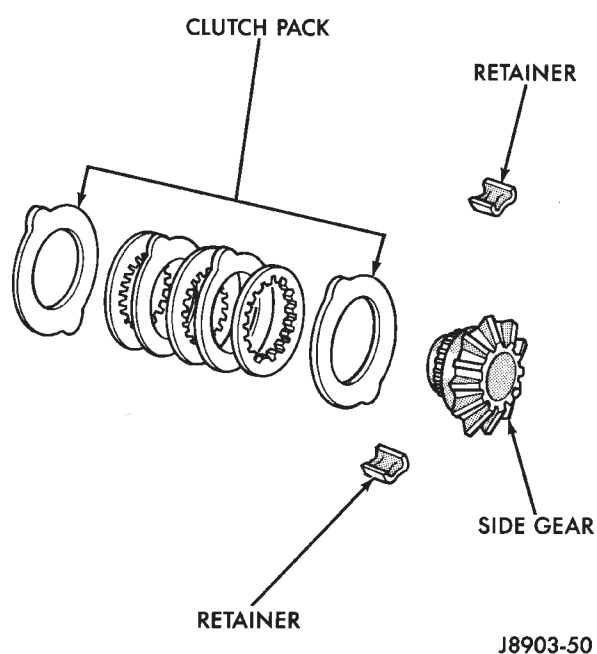

Fig. 64 Clutch Disc Pack
(1) Assemble the clutch discs into packs and secure disc packs with retaining clips (Fig. 64).
(2) Position assembled clutch disc packs on the side gear hubs.